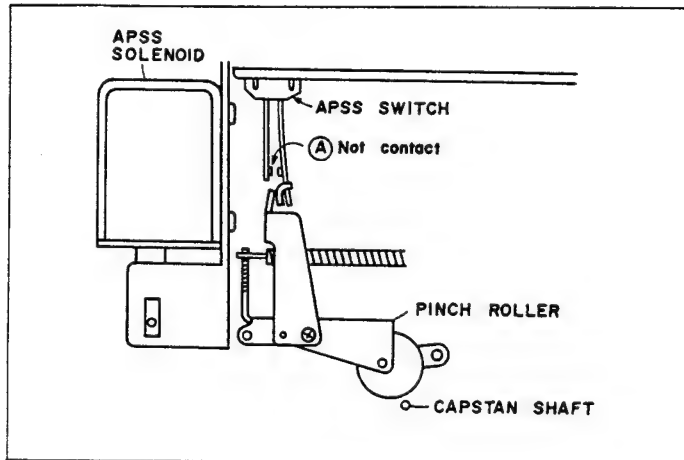

Figure 22
(Refer to Figure 22)
- (1) Set the unit in play mode.
- (2) Adjust the setting position of the APSS switch (SW301) so that the interval (A) of Figure 22 will be as specified.